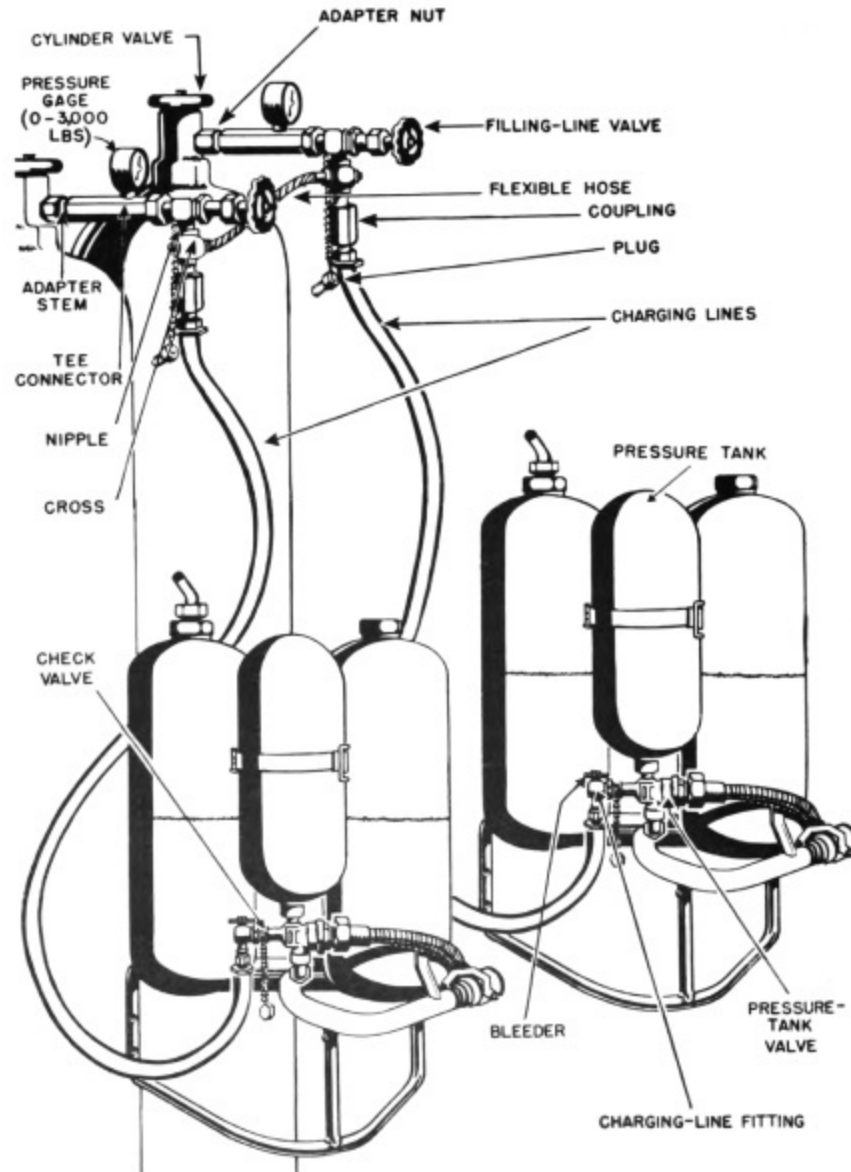

Fig 23. Charging two pressure tanks, using charging and filling lines, and cylinders of compressed air or nitrogen.
(3) Apparatus. The apparatus for charging two pressure tanks by the use of cylinders consists of a filling line, two charging lines, and two cylinders. (Fig 23) The filling line and charging lines are obtained from the service kit. (Par 48) Plugs are provided to close off either half of the filling line when only one flame-thrower tank group is to be charged.
(4) Warning. Oxygen is sometimes shipped in cylinders having the same threads as nitrogen cylinders. If oxygen not mixed with nitrogen, as in
- (5) Attaching lines to cylinders. (Fig 23) The procedure for charging two flame thrower pressure tanks from two cylinders of nitrogen or compressed air begins as follows: